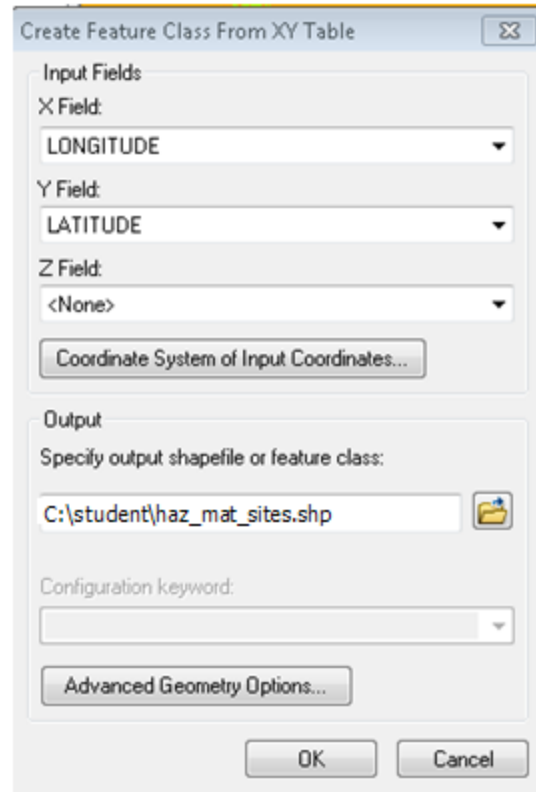

Figure 4. Creating a feature class from an XY table
- 5 Specify the *Output* shapefile as *haz_mat_sites.shp* under your student folder (figure 4).